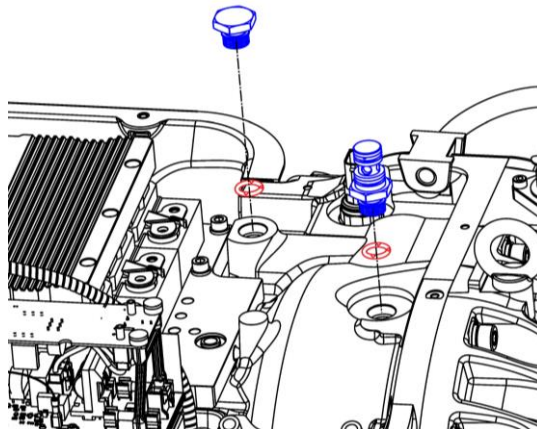

Figure 2 – Plug and SCR Manifold Return Brass Fitting Locations
2. Remove the SCR Manifold Return Brass Fitting. Refer to Figure 2 – Plug and SCR Manifold Return Brass Fitting Locations for this and the following three steps.